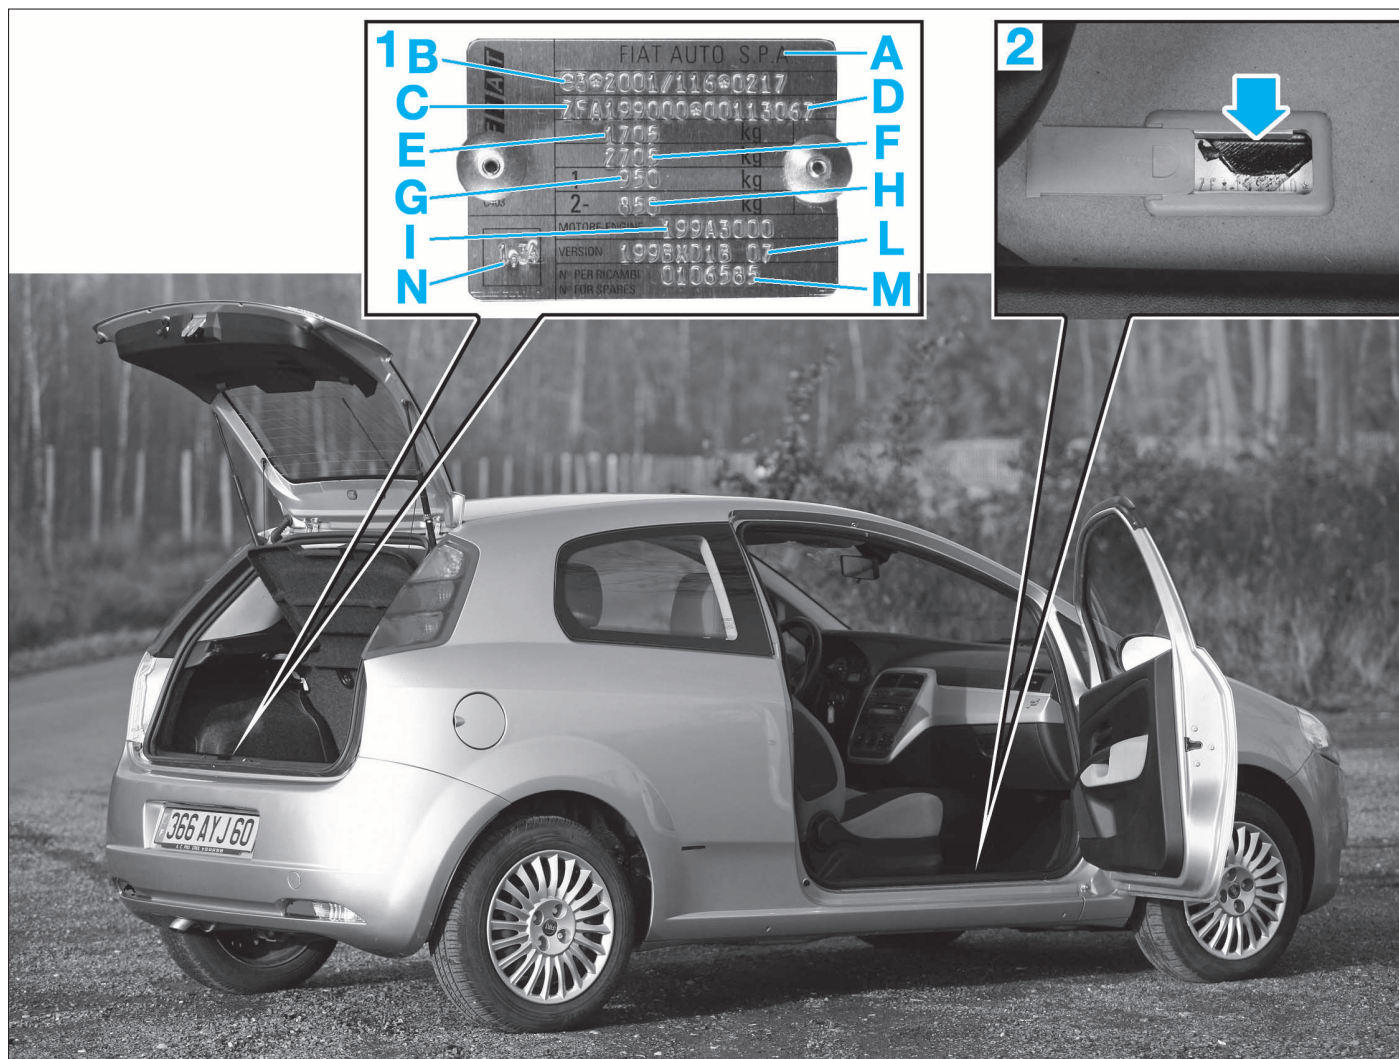

FIG.1
## PLAQUE CONSTRUCTEUR (1) (FIG.1)
## NUMÉRO D'IDENTIFICATION (2) (FIG.1)